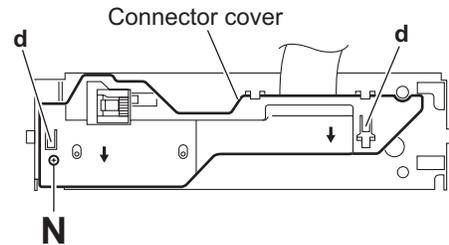

Fig.14
- (3) From the back side of the front bracket assembly, remove the screw **N** attaching the connector cover. (See Fig.14.)
- (4) Remove the connector cover in the direction of the arrow while releasing the tabs **d** in an upward direction. (See Fig.14.)